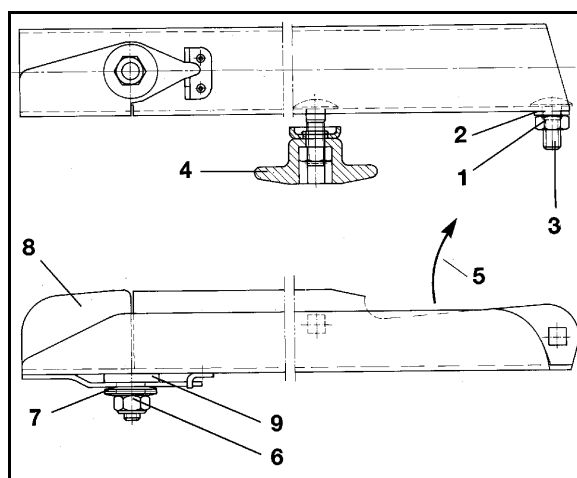

Fig. 80
1. Slacken self locking nut (brass CuZn) (Fig. 80/6) and remove together with the spring washers (Fig. 80/7).
2. Exchange swivel blades (Fig. 80/8).
Observe the plastic washer (Fig. 80/9) between spreading vane and swivel blade.
4. Tighten the self locking nut (Fig. 80/6) with a torque of 6 – 7 Nm so that the swivel blade can still be swivelled by hand, however does not swivels upwards automatically.